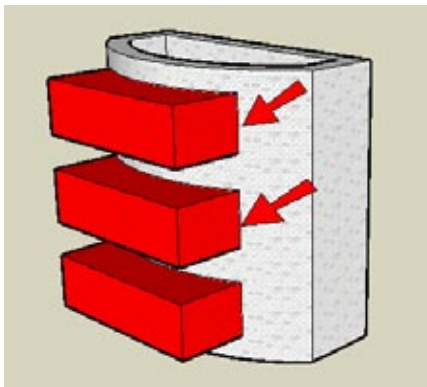

Figure 3-36
- Select everything and choose Intersect→Intersect with Model to get the intersection edges on the building (Figure 3-36).